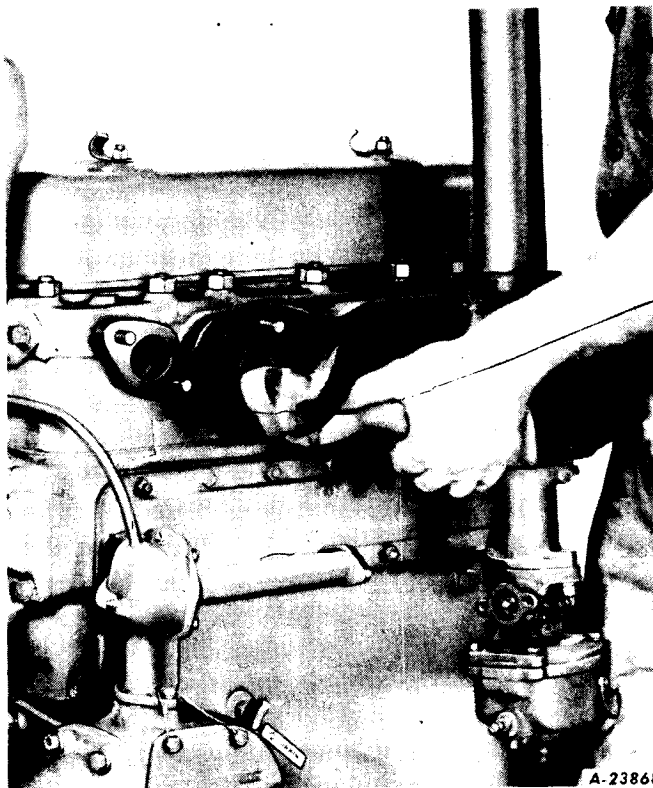

Fig. 6 - Removing the Manifold Assembly and Carburetor (175 and 281 Series).
8. Lift the manifold, together with the carburetor, from the engine and remove the gaskets. (Fig. 6 and 7)
1. Remove the intake and exhaust manifold assembly. (Refer to Par. 2 and see Fig. 6)